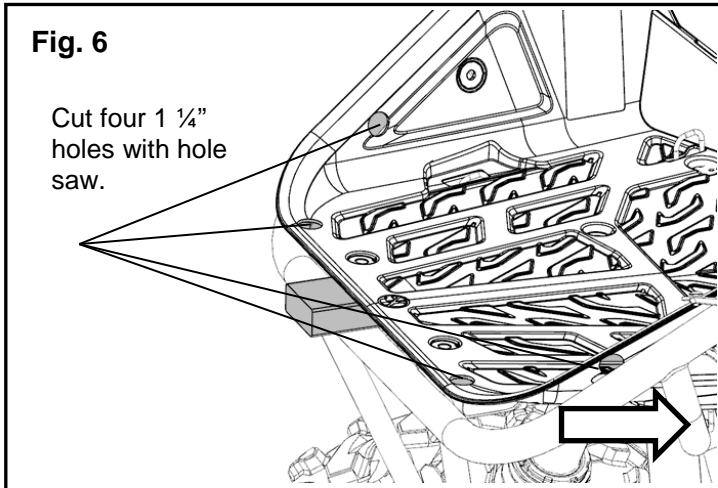

Fig. 6
- Raise the rear edge of the Cargo Bed up by wedging a piece of 2x4 between frame and bed. Use a 1.25" hole saw to cut 4 holes marked with the templates in steps 4 and 4A. See Fig. 6.